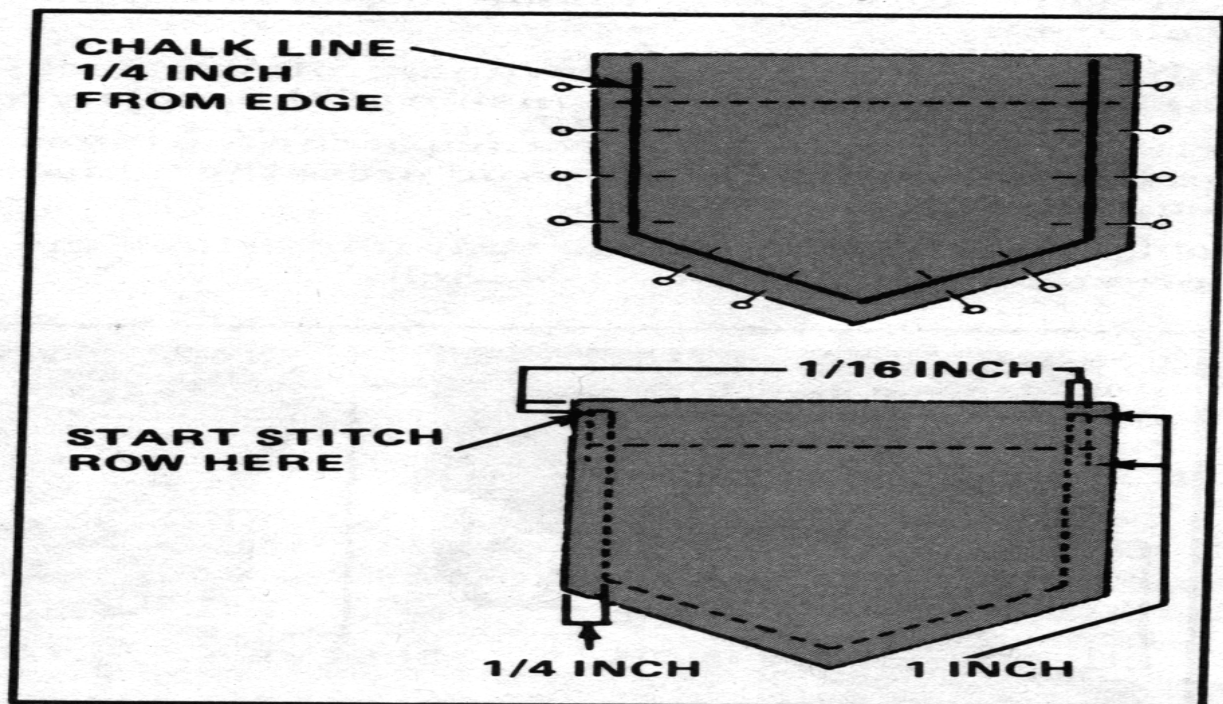

Figure 4-20. Replacing a patch pocket
- a. Replacing a Patch Pocket. To replace a patch pocket (Figure 4-20)--
- (1) Remove the damaged pocket by cutting through all the stitches holding it in place. Do not cut the underlying fabric of the garment. Clean away all loose threads. Place the garment faceup on the worktable.
(2) Obtain a matching replacement pocket. Use one salvaged from a similar garment that has been scrapped, or make one from cloth using the old pocket as a pattern. Match the fabric fading as closely as possible.
(3) Place the new pocket faceup on top of the garment. Cover the same area that the old pocket covered. Pin the pocket in place.
(4) Measure and mark a chalk line $\frac{1}{4}$ inch from the folded edge on all sides of the pocket except the top.
(5) Position the pocket and the garment under the needle of the sewing machine.
(6) Stick the needle into the pocket $\frac{1}{16}$ inch down from the right side of the pocket.
(7) Stitch down 1 inch and then back up to the starting point to tack the seam.
(8) Pivot the cloth on the needle, and take one or two stitches to the chalk line.
(9) Pivot the cloth on the needle, and stitch around the pocket on the chalk line. Pivot the cloth on the needle at the corners.
(10) Pivot the cloth on the needle $\frac{1}{16}$ inch away from the top edge of the cloth. Take one or two stitches so that the needle is now $\frac{1}{16}$ inch away from the side of the pocket.